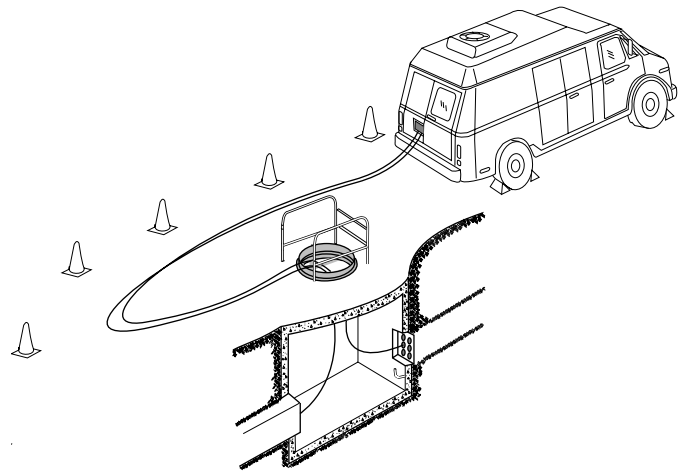

Figure 17 Splicing setup
**6.20** At splice points, pull sufficient slack (typically 10 m /40 ft of slack from the lip of the manhole) to reach the intended splicing location, plus enough slack to permit closure preparation and splicing (Figure 17).